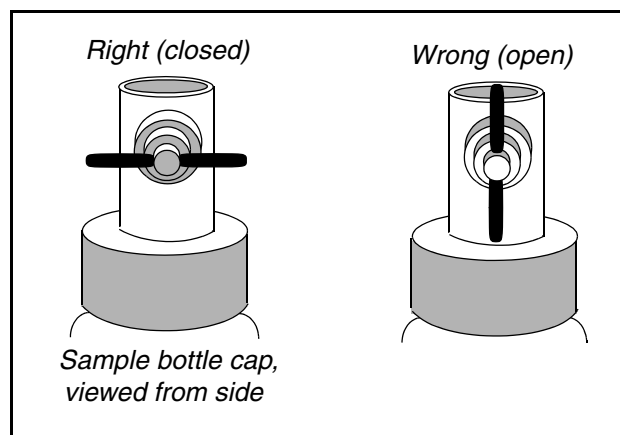

Figure 1-1 Proper Valve Orientation
1. Put a new bottle rack in the unit. Make sure the handles on the bottles are all closed (turned 90° to the bottles). See Figure 1-1. Improperly-oriented handles will jam the unit.